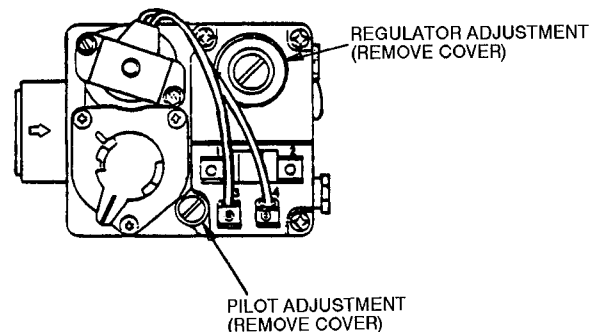

Fig. 34 — Gas Valve
2. Remove screw cap cover on pilot gas valve to expose adjusting screw (See Fig. 34).
6. Remove screw cap covering regulator adjustment screw (See Fig. 34).